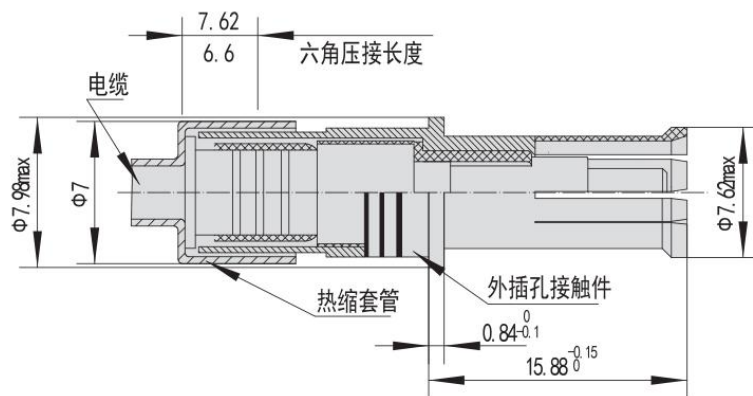

Figure 3.13
⑧ As shown in Figure 3.13, the outer jack contact and front insulator secondary components slide onto the inner assembly until offset. A small gap will appear in the casing.